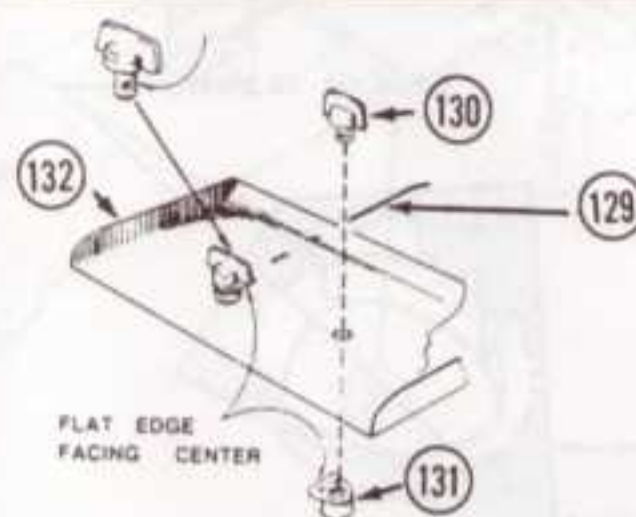

FIG. 52
14. Insert the male top wing button (130) through the top of the wing (132) and snap into the female bottom wing button (131) so that the flat, wire holding edges, are pointing inward toward each other. The male top wing button (130) is turned so that the large notch is also pointing inward as shown in Fig. 52.